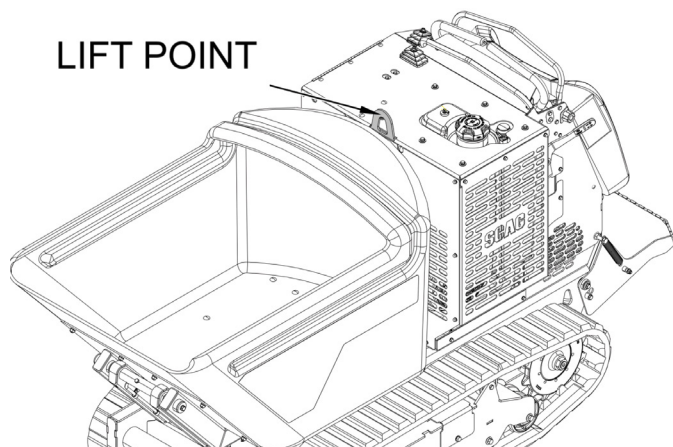

Figure 4-8. Lift Point
1. Secure chains or lifting straps rated for the weight and size of the machine to the lift point. See Figure 4-8.